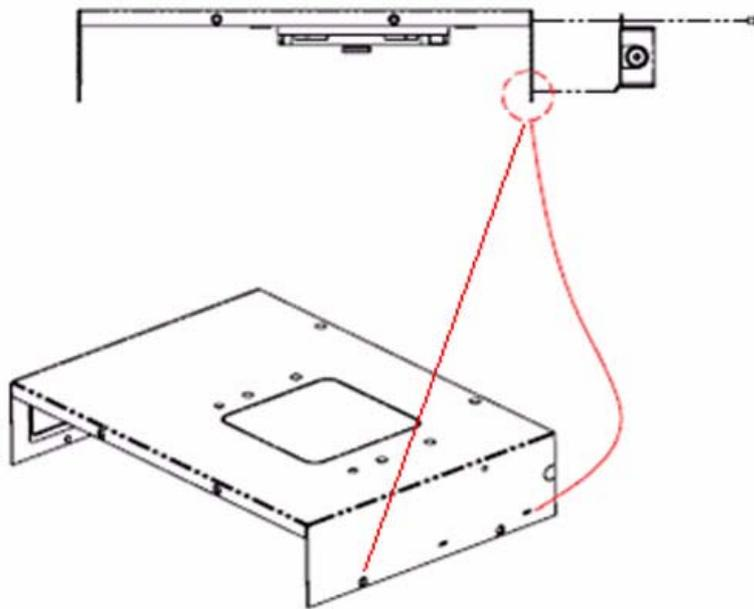

Figure 2.19 Assemble TV tuner to top case
3. Hook the TV tuner module with top case and fix it with one screw(Fig. 2.19)